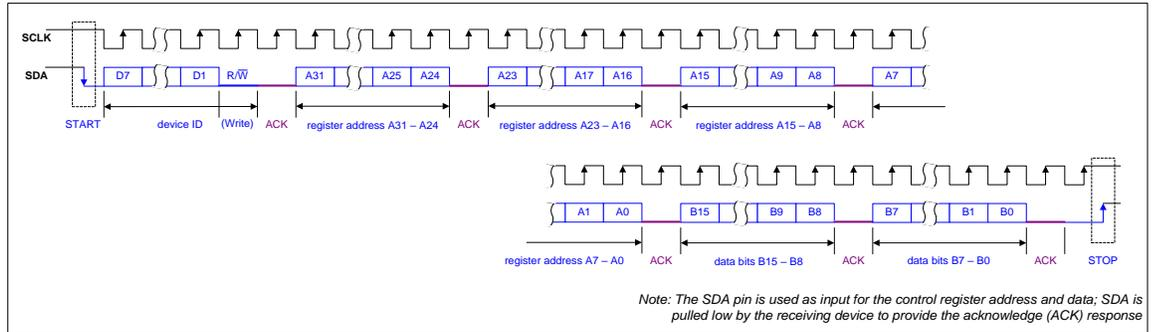
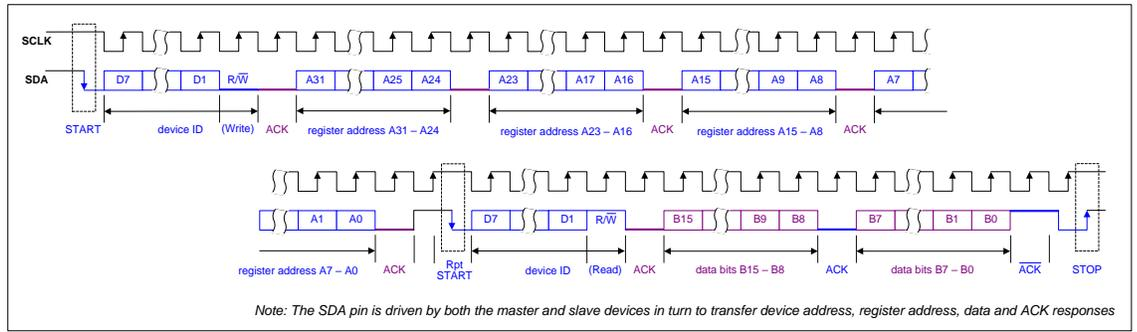

Figure 79 Control Interface 2-wire (I2C) Register Write (16-bit Data Words)
Figure 80 Control Interface 2-wire (I2C) Register Read (16-bit Data Words)
- Note that, in all cases, the complete I2C message protocol also includes a Device ID, a Read/Write bit, and other signalling bits (see Figure 79 and Figure 80 below).
The 2-wire (I2C) protocol for a single, 16-bit register write operation is illustrated in Figure 79.
The 2-wire (I2C) protocol for a single, 16-bit register read operation is illustrated in Figure 80.